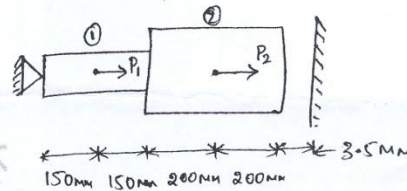

Fig Q6
- 6 A two step bar subjected to Loading condition as shown in figure Q6, is fixed at one end and the free end is at a distance of 3.5mm. Determine,